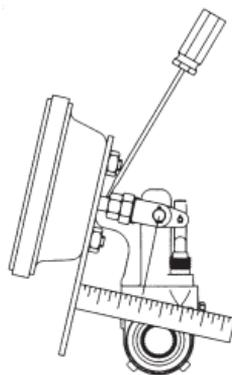

Figure 2 – Free Stroke
- Free stroke is the amount of movement of the slack arm required to move the brake shoes against the drum. With brakes released, measure from the face of the chamber to the center of the clevis pin. Use a lever to measure the movement of the slack adjuster until the brake shoes contact the drum (See fig. 2). The difference between the released and applied measurements is the free stroke. The free stroke should be $3/8"$ - $5/8"$.